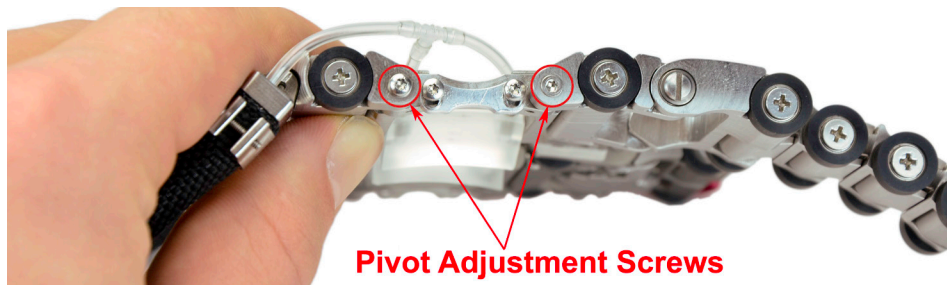

Figure 15 - Loosening Pivot Adjustment Screws
- g. Loosen pivot adjustment screws 1/8th turn to allow for adjustment (see Figure 15).